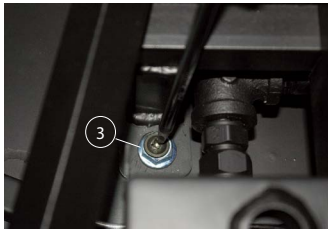
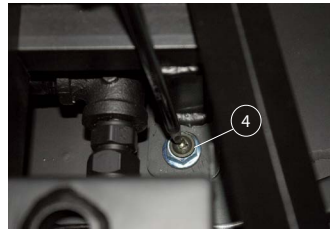

Figure 20a. (LH Base mounting machine screw).
Figure 20b. (RH Base mounting machine screw).
Step 3 & 4 Remove the two (2) (RH & LH) Base mounting machine screws, **Figure 20a & 20b.** (*Philips head screwdriver required*).
Step 3 & 4. Figure 20a. (*LH Base mounting machine screw*). **Figure 20b.** (*RH Base mounting machine screw*).